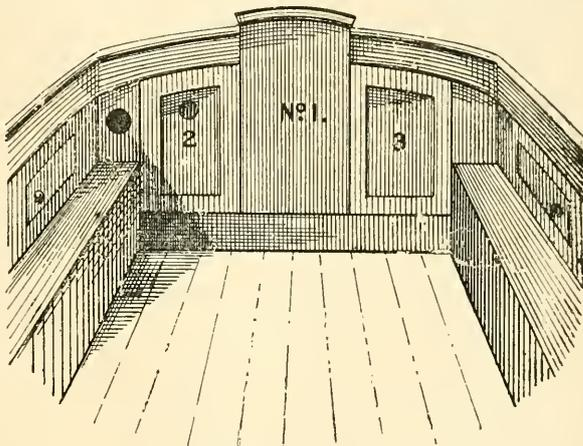
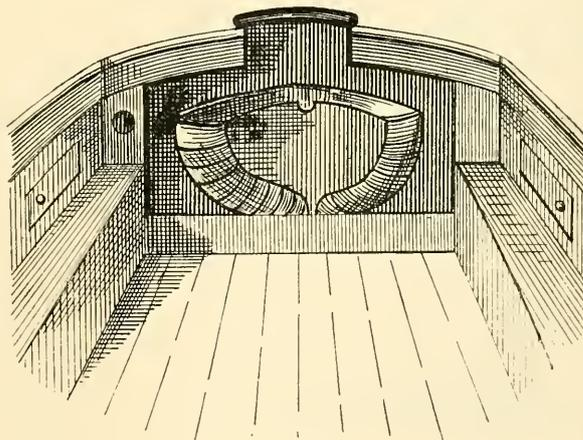

FIG. 337.
FIG. 338.
*Stowing a Punt*.—Mr. A. D. Ashford thus describes his plan for stowing a punt on board a small craft instead of towing her or carrying her on deck: "I had a craft built 20ft. keel, 24ft. over all, 6ft. 6in. beam, good rise of floor, and only small cockpit. The punt was stowed in the cabin, and there was good room to go round her and get anything required. When sailing, you do not want cabin in a small craft, and with ease I could get punt out or in single-handed; she was 8ft. long, and I have landed five men in her at one time. Fig. 337 is fore end of cockpit, closed up; Fig. 338 shows punt on floor of cabin. The slides, No. 1 of companion, fit into grooves in sides of Nos. 2. and 3; Nos. 2 and 3 also fit into grooves, and come out."